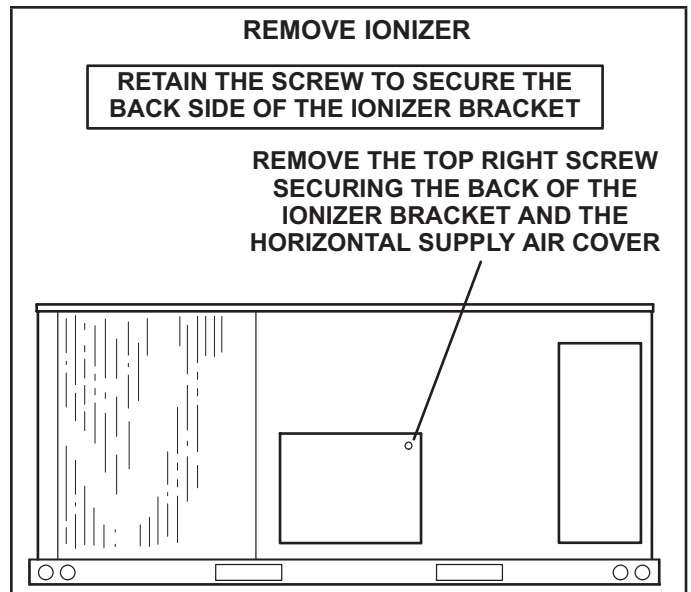

FIGURE 36
- 1 - On the back side of the unit, remove the screw securing the back of the ionizer bracket. See figure 36. Retain the screw to secure the back side of the ionizer bracket.